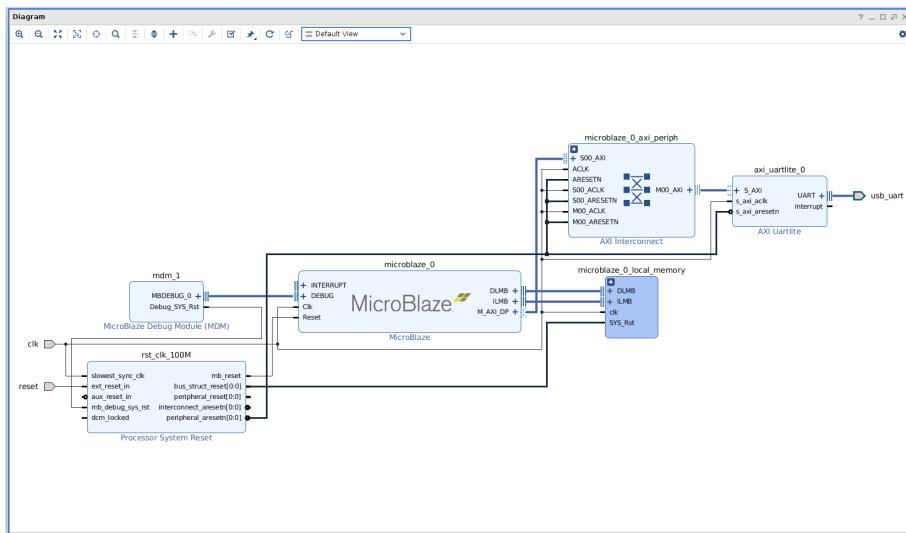

Figure I.1: The diagram for the ‘Hello World’ project.
1. Open the hello world project from last time. The block diagram should look like that in Figure I.1. Exit Vitis.